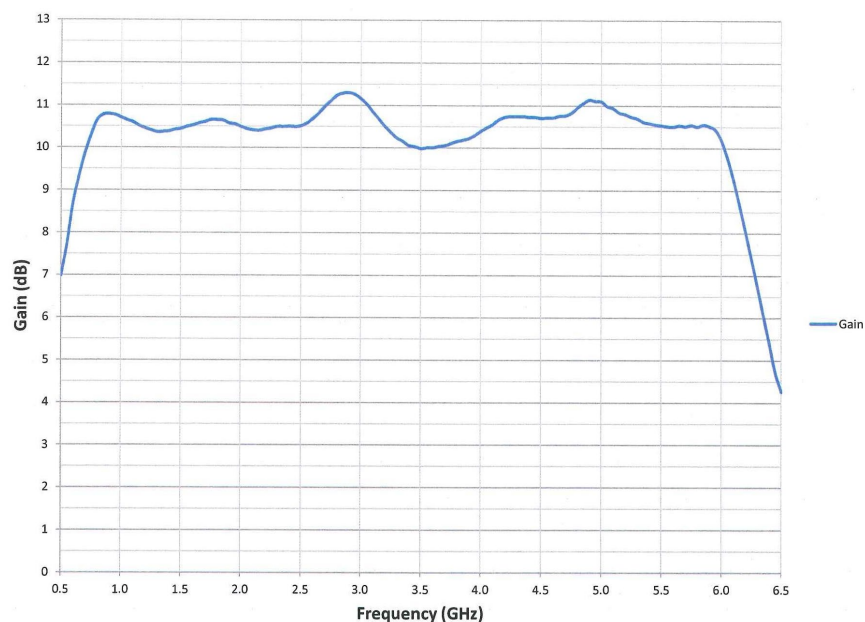

Figure 4-3. Typical Quad Amp Response
3. If the gain is slightly low (i.e., several dB below typical), try disconnecting the input and output cables from the A3, A5-A8 Quad Amps and checking the individual gain. Typical Quad Amp response is shown in Figure 4-3.